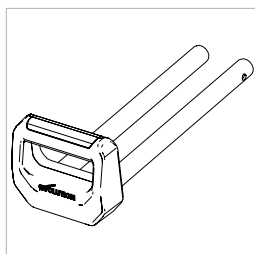

Fig. 4
- The carriage slides (**Fig. 4**)